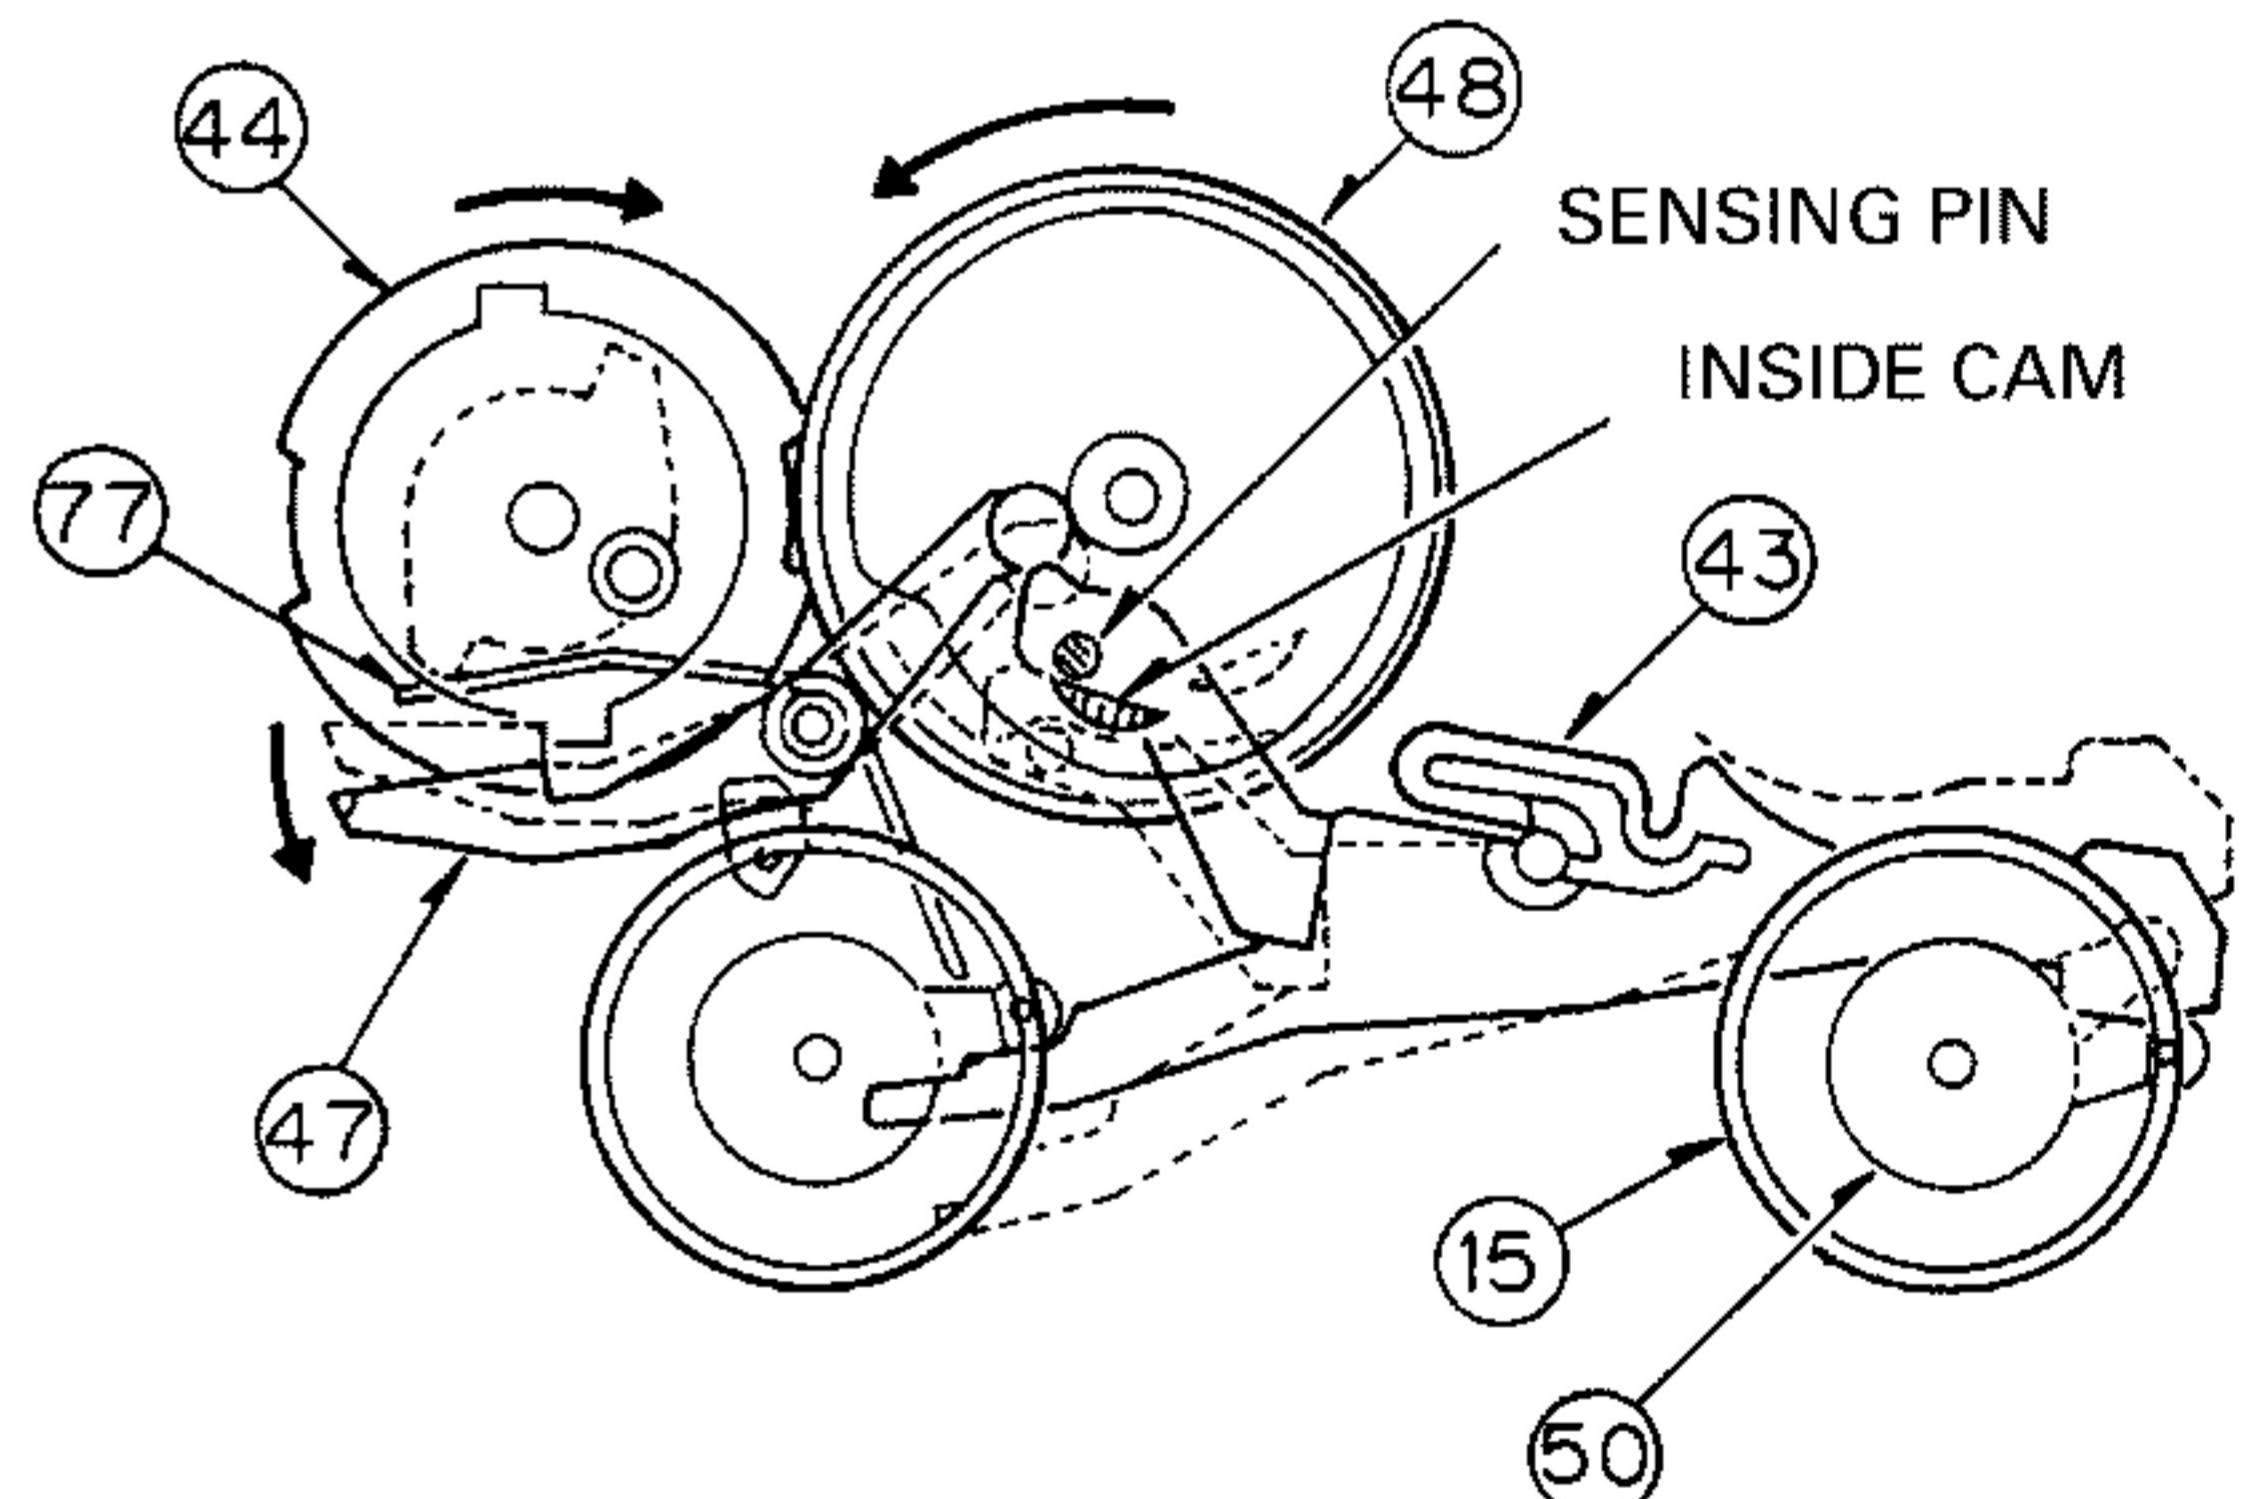

Fig. 4
(6) The sensing pin of the Sensor Arm 43 is pushed toward the fulcrum of the Detector Gear 48 by the inside cam of the Detector Gear 48. (Fig.4)
(7) This movement unlocks the Gear Lock Arm 47 from the Selector Gear 44. The Selector Gear 44 rushes toward the Detector Gear 48 with the pressure of the Dash Spring 77. When the Selector Gear 44 gets engaged with the Detector Gear 48, the Selector Gear 44 starts rotating.